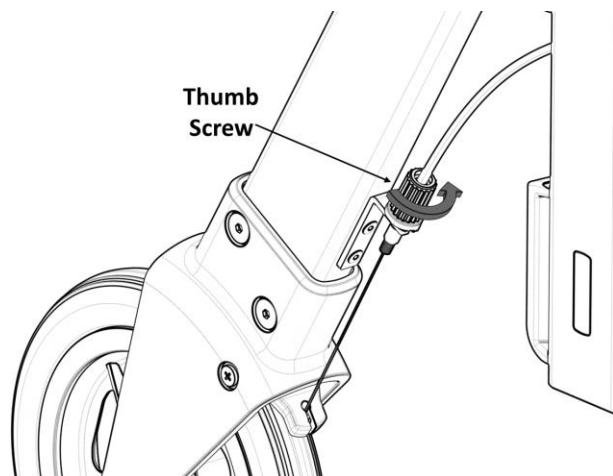

FIGURE 5
5. Twist **Thumb Screw** counterclockwise to increase brake resistance; twist clockwise to decrease resistance as shown in **FIGURE 5**.